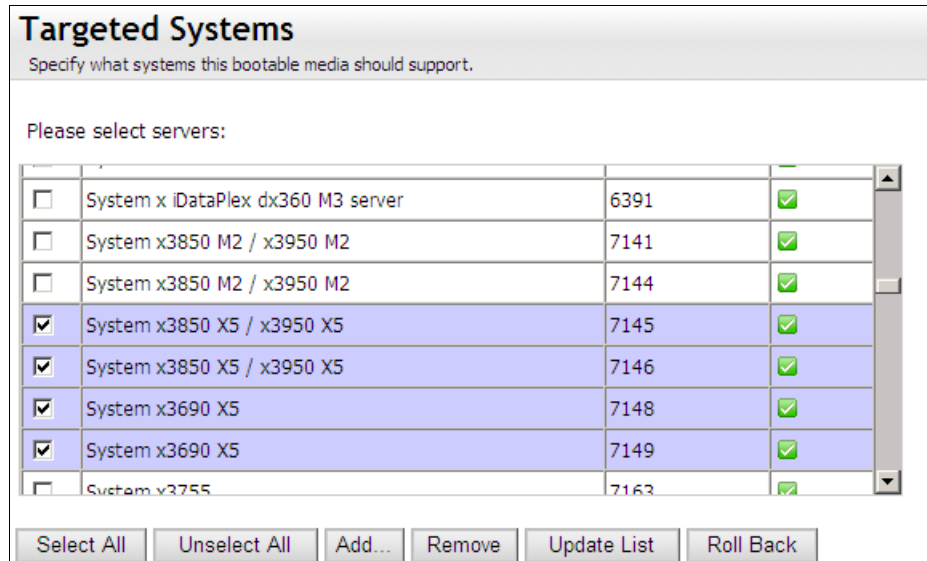

Figure 9-77 The targeted systems panel
9. Select one or more machine types that are contained on the bootable media and click **Next**, as shown in Figure 9-77 on page 518.